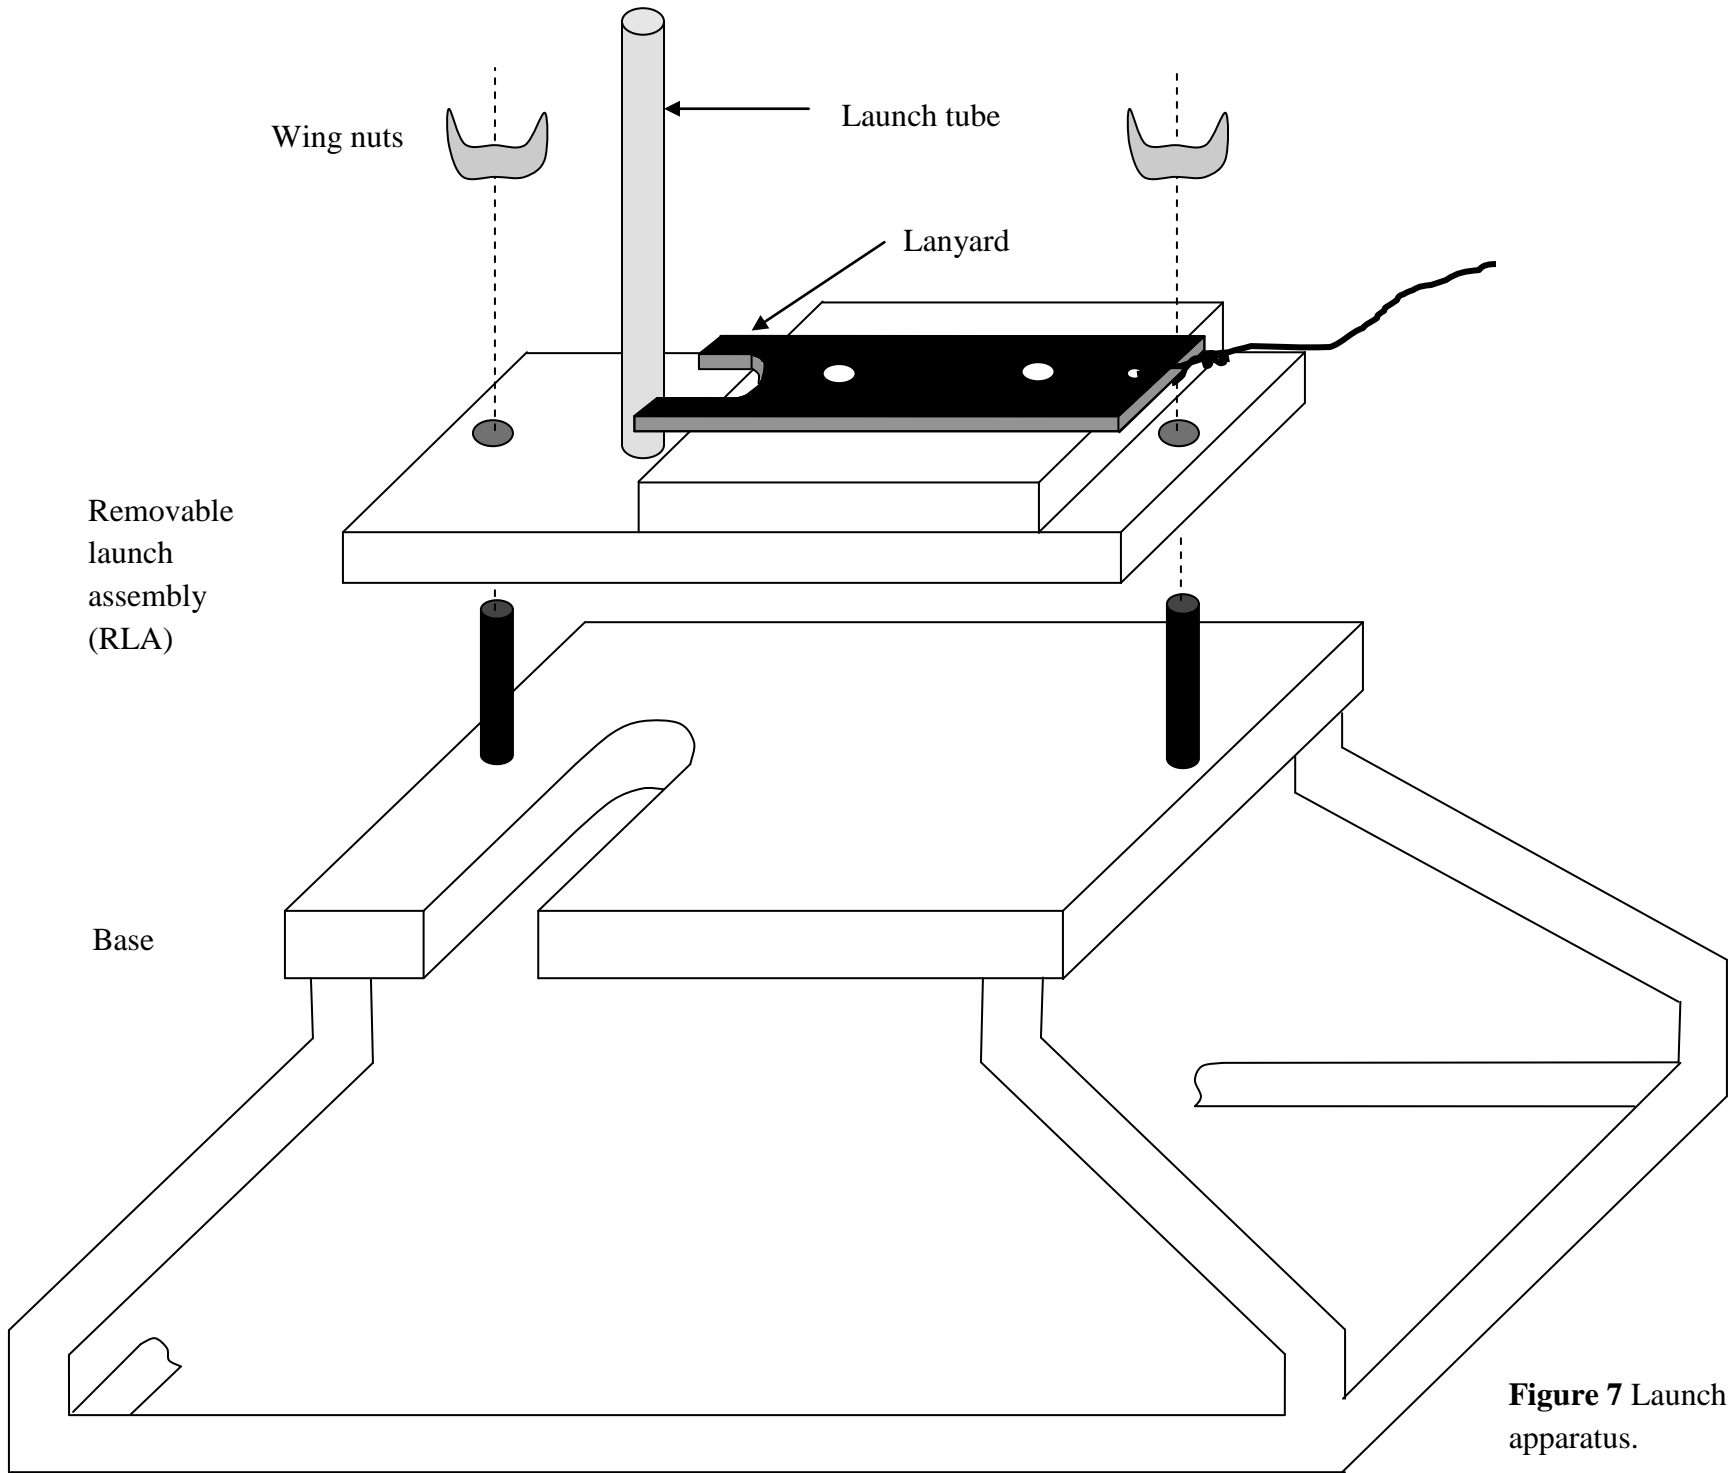

Figure 7 Launch apparatus.
Figure 7 shows the launch apparatus, which comes in two sections: (1) base and (2) removable launch assembly (RLA). By removing the wing nuts, the RLA can be separated from the base, which is secured to the ground using stakes. The RLA contains a lanyard, which holds the bottle in place until it is ready to be launched by pulling the cord.